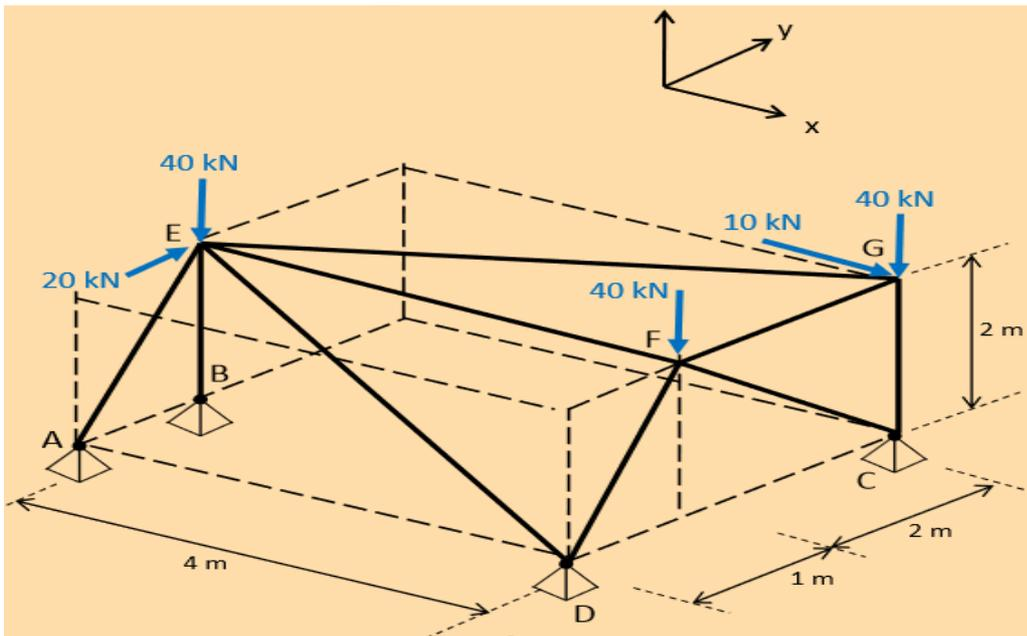

Fig.6
26. The space truss shown in the Fig.6 has roller and socket support at joint A, B, C and D